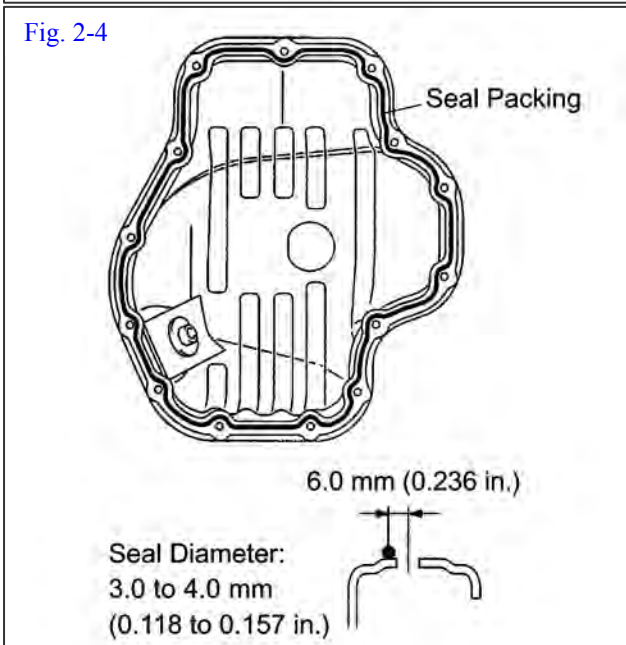

Fig. 2-4
- (e) Apply a continuous bead of **00295-00103 FIPG** seal packing (3.0 to 4.0 mm in diameter) to the sealing surface of the oil pan as shown in Figure 2-4. **CAUTION:** Remove **ANY** and **ALL** oil residue from the sealing surfaces first. Install the oil pan **within 3 minutes** of applying sealant. **Do NOT put engine oil into the engine for at least 2 hours after installing the oil pan.**